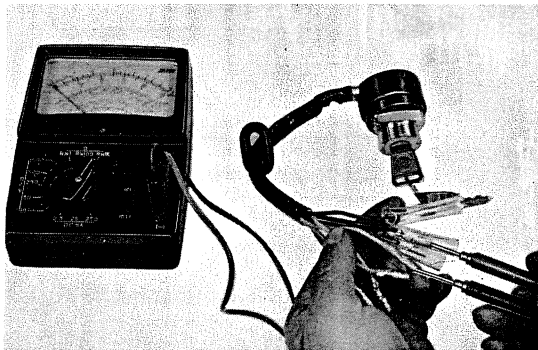

Fig. 164 Combination switch continuity test
1) Combination switch (Fig. 164)